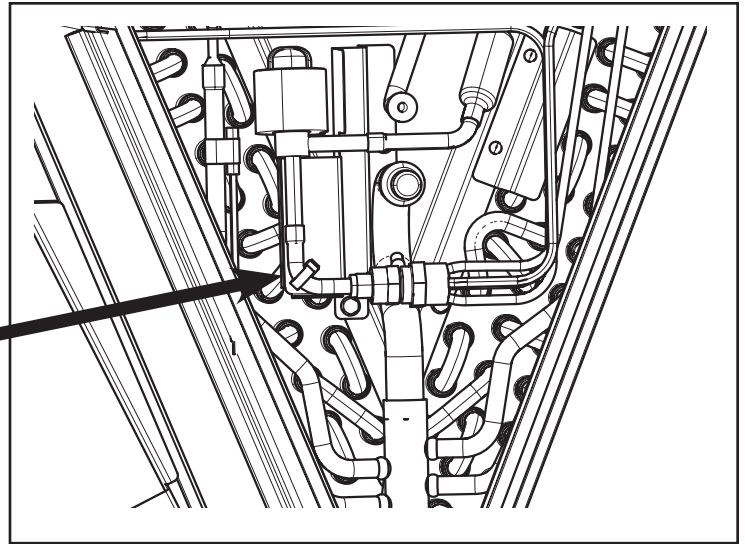

Figure 84 – Secure EEV Assembly
11. Secure the EEV flow control assembly to the coil as shown in Figure 84 using the supplied snap-in cable tie.